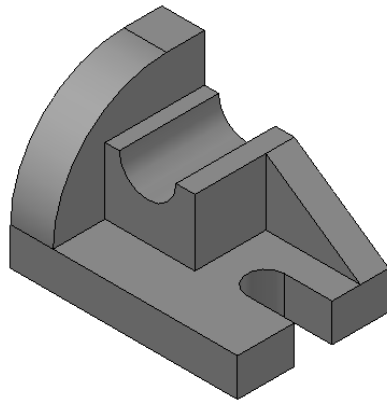

Figure 3-124 Solid model for Example 2
20. Change the visual style by selecting the **Shades of Gray** option from the **Visual Styles** drop-down list in the **In-canvas Viewport Controls**. The final solid model should look similar to the one shown in Figure 3-124.